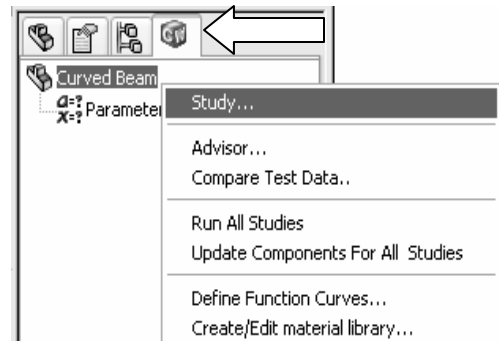

Figure 3 – Opening a COSMOSWorks Study.
3. Click the COSMOSWorks Analysis Manager icon located at the top-right side of the manager tree shown in Fig. 3. This action activates COSMOSWorks.
4. In the COSMOSWorks Analysis Manager, Fig. 3, right-click **Curved Beam** and from the pull-down menu, select **Study...** The **Study** property manager opens (not shown).